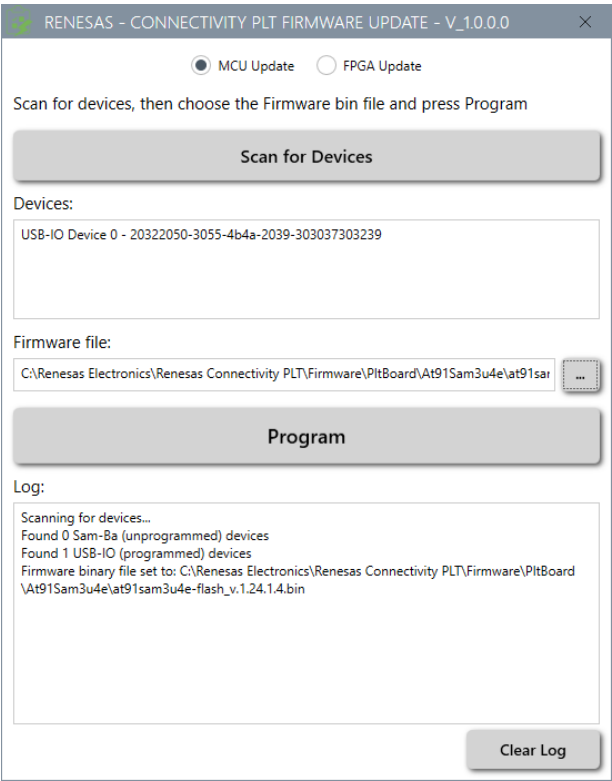
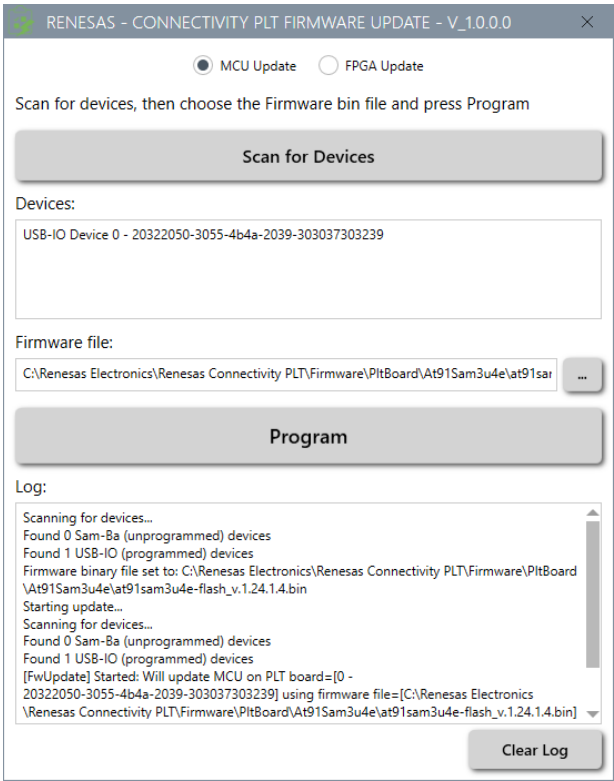

Figure 153. Firmware update - .bin file loading
Figure 154. Firmware update - Programming
4. Click **Program**. See Figure 153 and Figure 154.